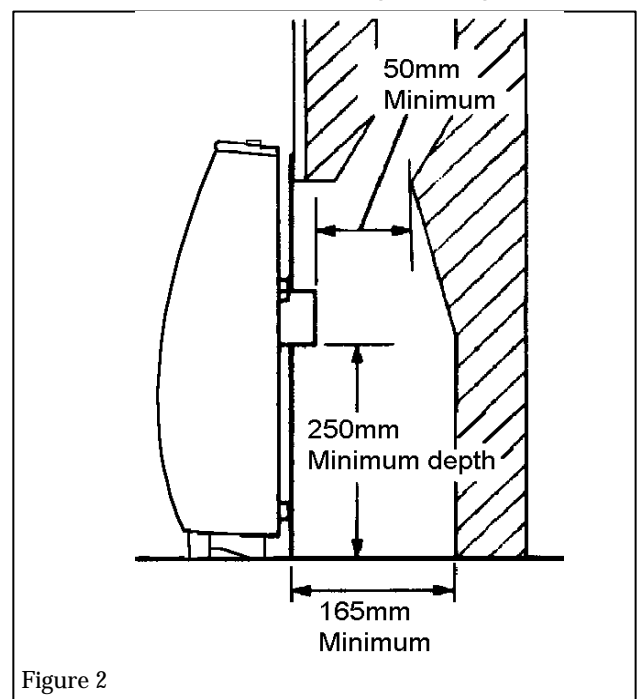

Figure 2
The catchment space below the flue spigot must extend at least 250mm downwards measured from the bottom of the flue spigot. See figure 2.
3.3.9 If the fire is fitted to a recessed fireplace, an extension flue spigot up to a maximum total length of 125mm may be used. The extension must be a tight fit over the flue spigot and be secured by two self tapping screws. Note the minimum clearance required as shown in figure 2.
- 4.1.1.** Place the fire centrally on the hearth making sure that the spigot lines up with the spigot hole in the closure plate. Gently slide the appliance into place. The spigot must enter the closure plate to a depth of at least 25mm (see figure 2).